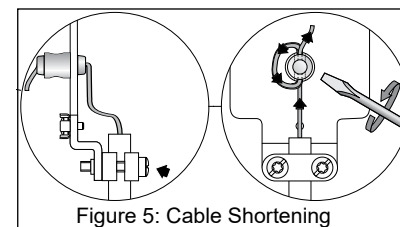

Figure 5: Cable Shortening
4. Loosen (2X) Torx screws located on lower cord grip. [Figure 5]